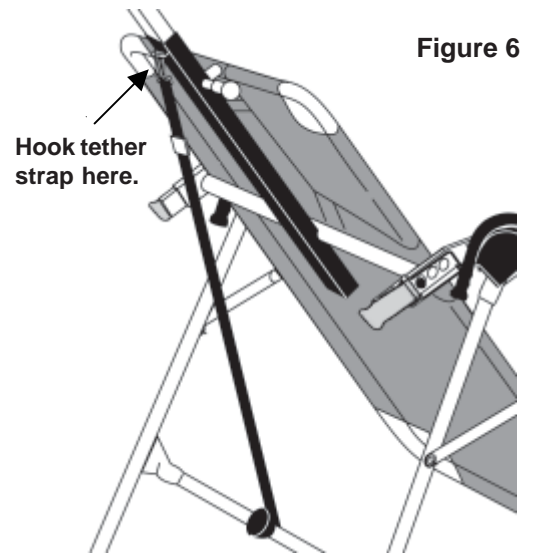

Figure 6
- Unfold the tether strap and snap it into the U-bar on the underside of the table frame. (See Figure 6)